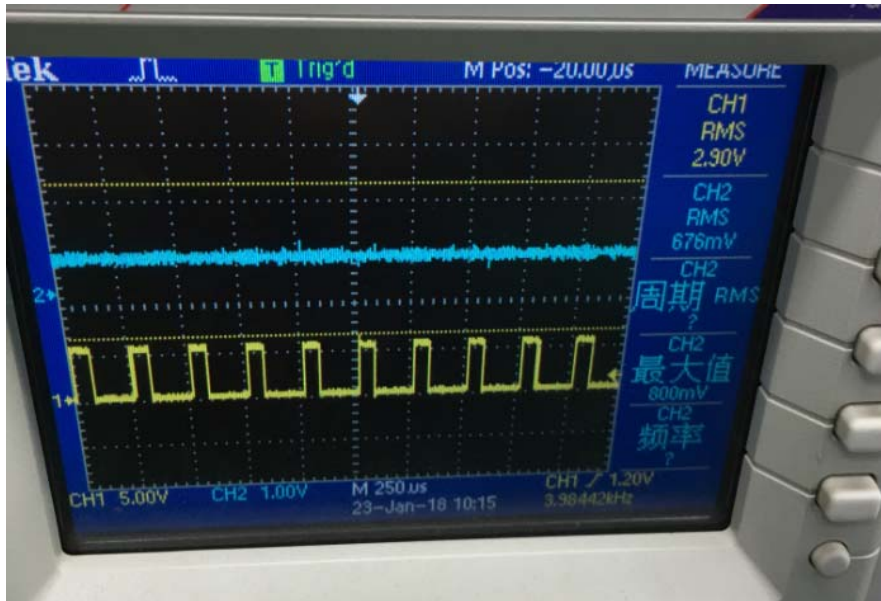

Fig1.1.2d The oscilloscope display of output voltage1+
1.1.2d CH1 is 3.7V, and CH2 is 0.676V, See Fig1.1.2d.